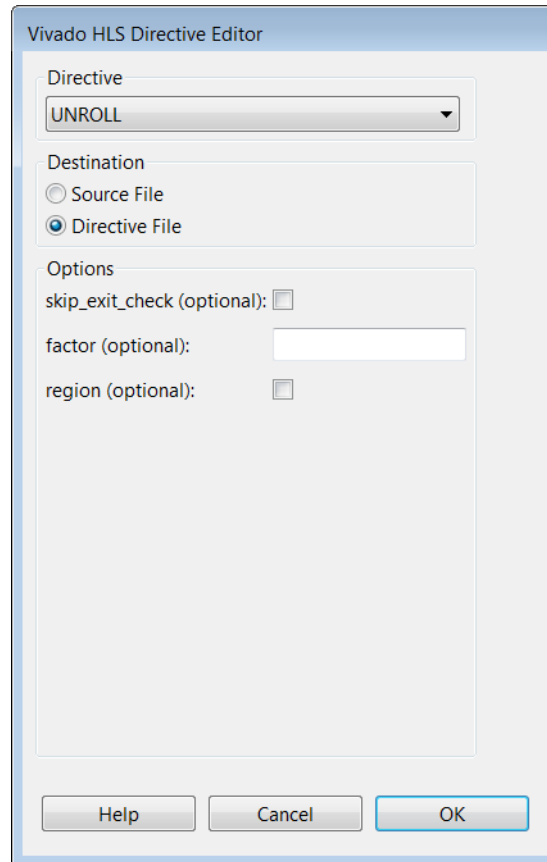

Figure 4-17: Directive Editor to Unroll For_Loop
- b. With the Directive Editor as shown in Figure 4-17, click **OK**.